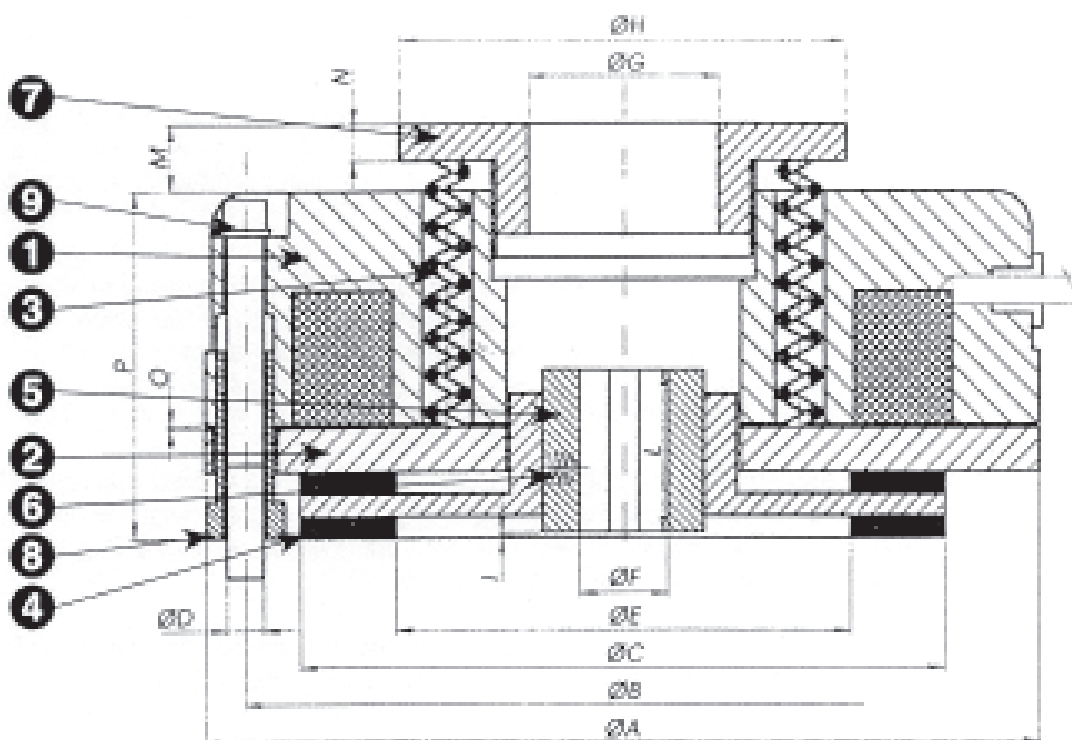

Fig. 1.4.1
Adjust the air gap "O" (fig.1.4.1) to 0.2 mm (0.008 inch.) when it reaches a value of 0.7 mm (0.03 inch.).
Unloose fixing screws (9) and set air gap "O" with brake adjusters (8) (fig. 1.4.1).